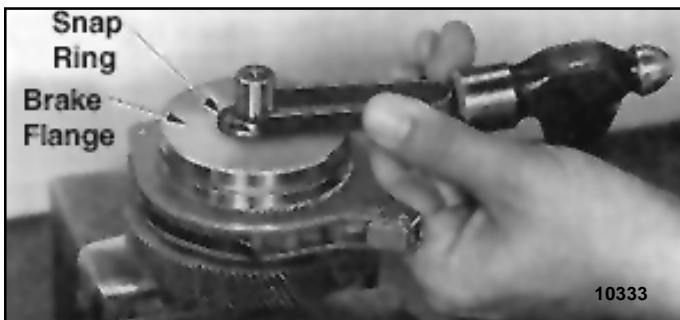

Figure 5-6. Remove Snap Ring From Load Brake Shaft
(1) Place load brake assembly, flange up, in a vise equipped with brass or copper jaw plates to protect pinion gear teeth. Remove snap ring from end of load brake shaft (Figure 5-6).